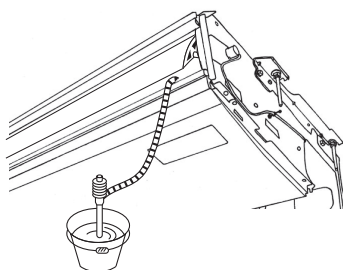

Fig. 5-3
5. Check for correct drainage. (Fig. 5-3)